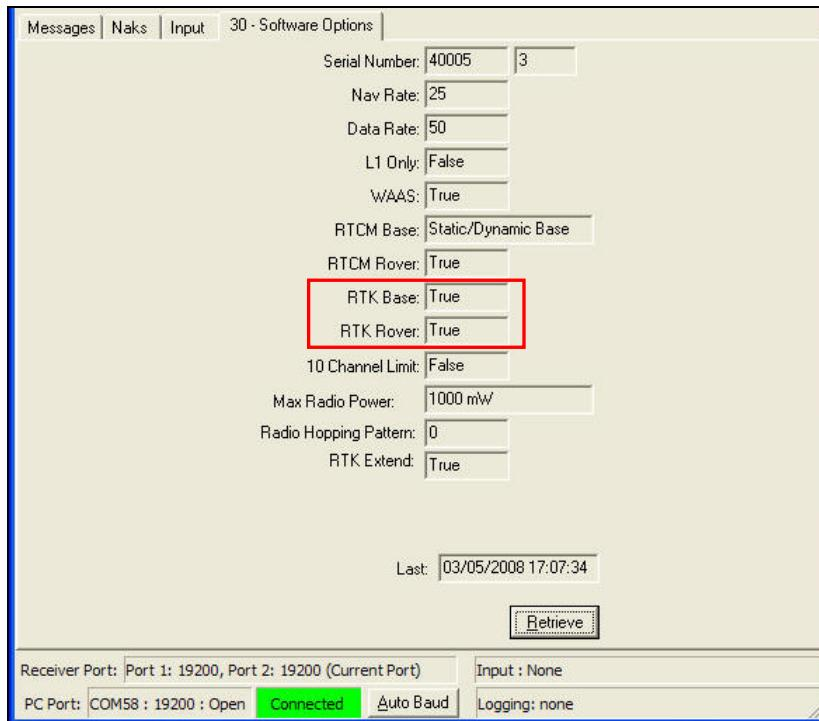

Figure 38: Message 30 – Software Options Tab: RTK License Active
- Verify that the RTK license is active. Select *View > 30 – Software Options*. The message tab opens. Click the *Retrieve* button to view the current output data. The RTK license is active if the value for both RTK Base and RTK Rover is True (see Figure 38).